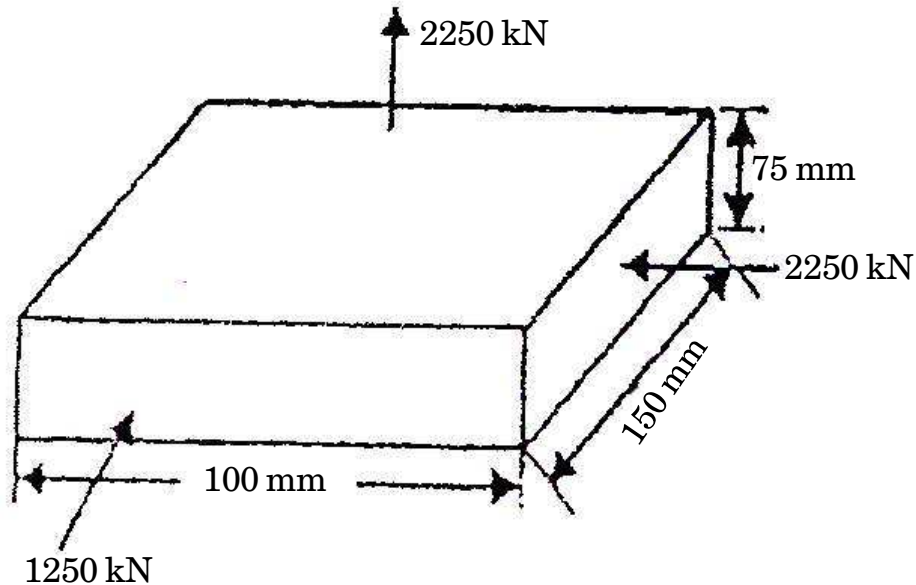

Fig. 3
- (c) A metallic piece is subjected to forces, as shown in Fig. 3. Determine the change in volume, if $E = 200 \text{ kN/mm}^2$ and Poisson's ratio = 0.25. [6]